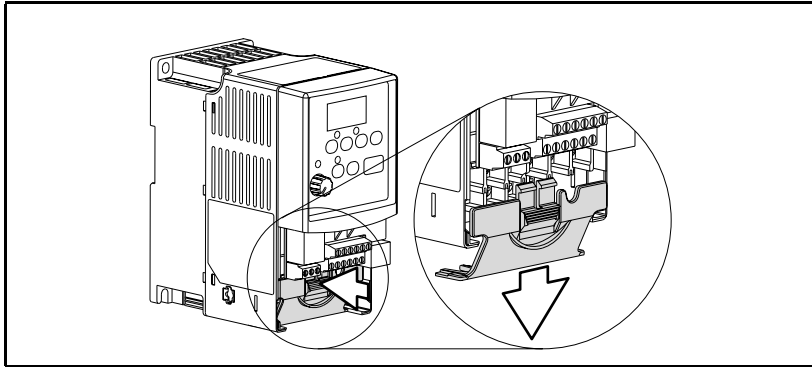

Figure 5.2 – Removing the Finger Guard
- Step 2. Remove the finger guard (refer to figure 5.2).